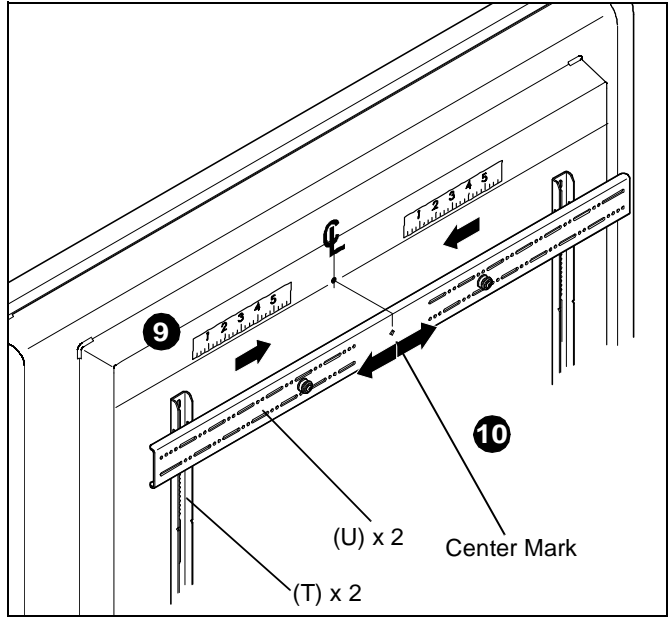
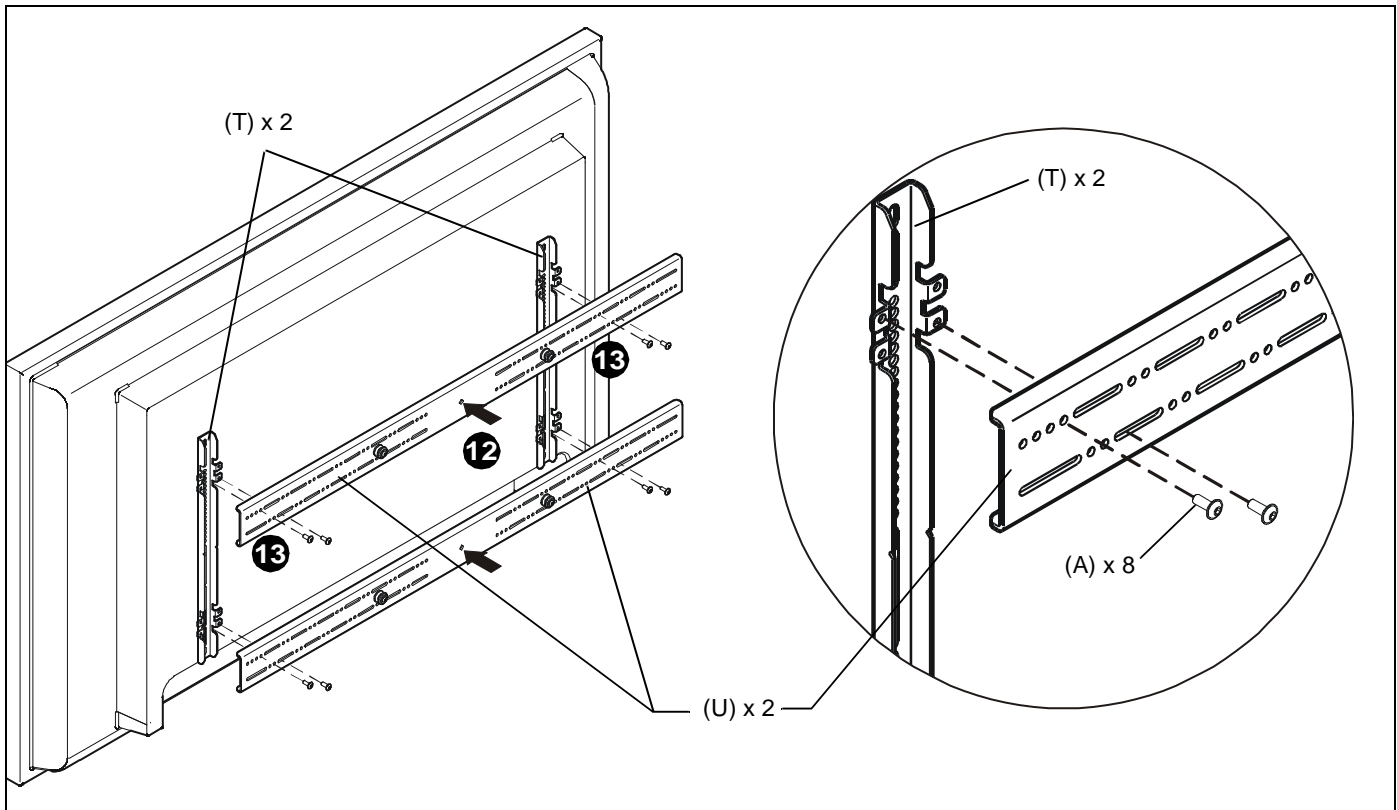

Figure 3
Figure 4
9. Determine and mark the horizontal center position between the Left and Right *TOP* mounting holes in display. (See Figure 3)
10. Determine and mark the horizontal center position between the Left and Right *BOTTOM* mounting holes in display. (See Figure 3)
11. Orient upper horizontal mounting bracket (U) so that flanges are facing towards display and resting in recessed area of left and right vertical mounting brackets (T). (See Figure 3)
12. Adjust Upper horizontal mounting bracket (U) position until center diamond in horizontal mounting bracket (U) aligns with mark made in Step 9, and mounting holes and slots in horizontal mounting bracket (U) are aligned with threaded holes in mounting tabs of left and right vertical mounting brackets (T). (See Figure 3) and (See Figure 4)
13. Use 1/8" hex key (V) to secure upper horizontal mounting bracket (U) to left and right vertical mounting brackets (T) using four button head flanged screws (A). (See Figure 4)
14. Repeat Steps 10 through 13 for lower horizontal mounting bracket (U).
IMPORTANT ! : The orientation of, and mounting holes used, when installing the lower horizontal mounting bracket must be the same as the upper horizontal mounting bracket. Vertically align upper and lower brackets by aligning holes or end of slots. (See Figure 4)
IMPORTANT ! : Whenever possible install mounting screws diagonally as shown in detail in Figure 4 below.